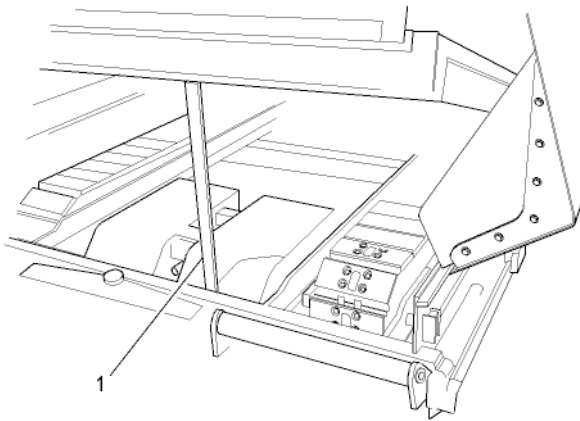

Figure 5-10. Safety Prop in Position
4. Immediately after raising the hopper, place the safety prop in position (**Figure 5-10,1**)
2. Release safety prop (**Figure 5-10,1**) carefully. If conveyor has dropped firmly down onto safety prop, it will be necessary to raise the conveyor. After raising the conveyor, lower the safety prop as instructed.
2. Secure safety prop (Figure 5-10,1) to prevent conveyor from accidentally lowering.